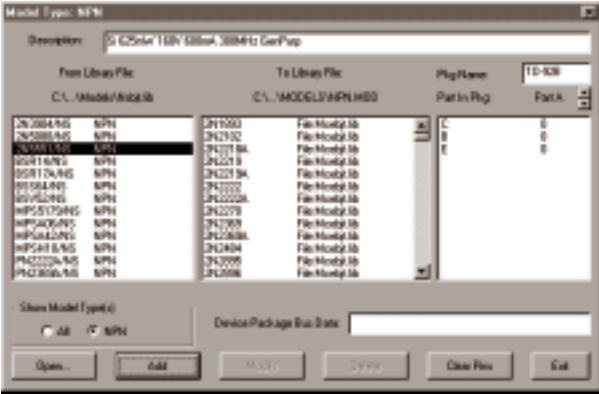

Figure 16.15. Use this dialog box to add, modify, and remove linking information.
- 3 Click **Model Data** to display the dialog box pictured in Figure 16.15.